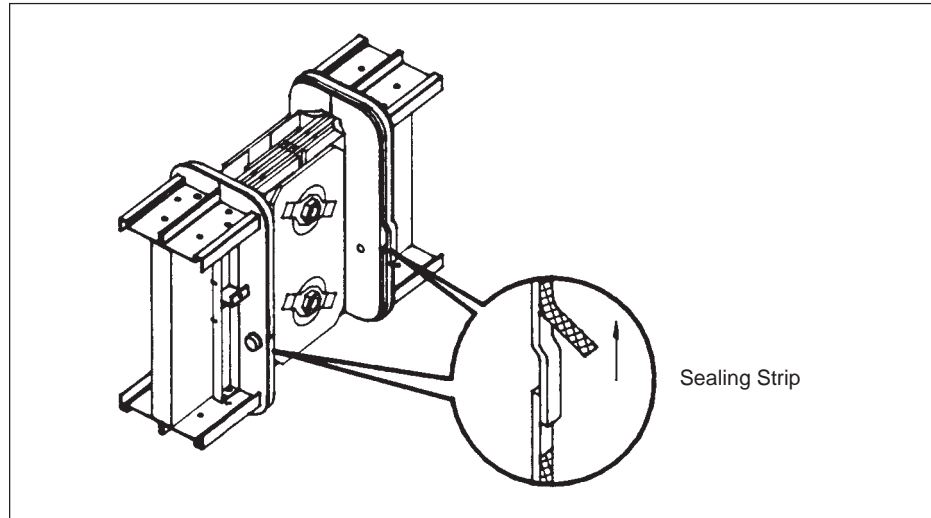

Figure 13
4. Prepare the joint for attaching covers (figure 13).